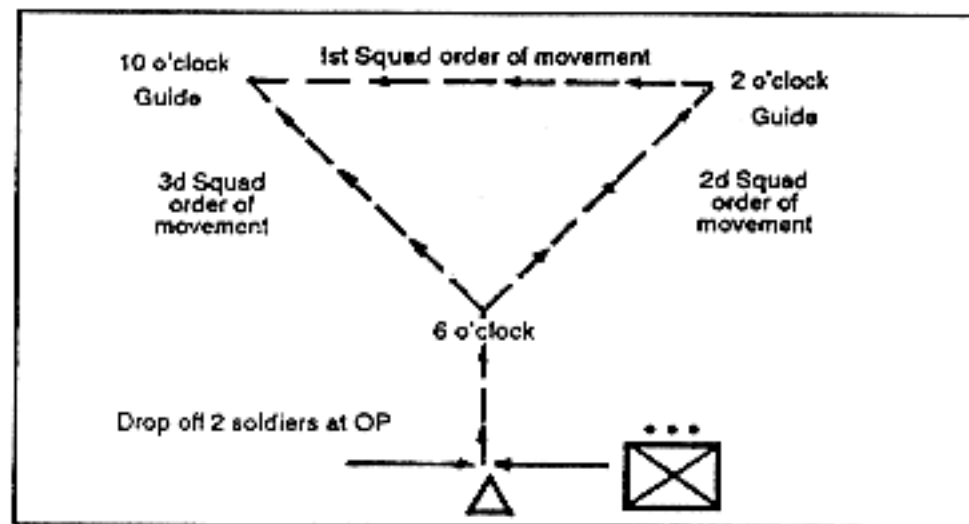

Figure 5-18. Triangular Patrol Base.
(4) Occupation (Platoon). Leaders Recon Technique. (Triangular perimeter - see figure 5-18).
- (1) Security:
- (c) Assign sectors of fire to all personnel and weapons. Develop squad sectors sketches and platoon fire plan. (see figure 5-18)
- (2) Communication with higher headquarters.
- (3) Weapons and equipment maintenance.
- (4) Personal hygiene.
- (5) Water/Mess plan.
- (6) Rest/sleep plan management.
- (7) Stand to/Move out time.